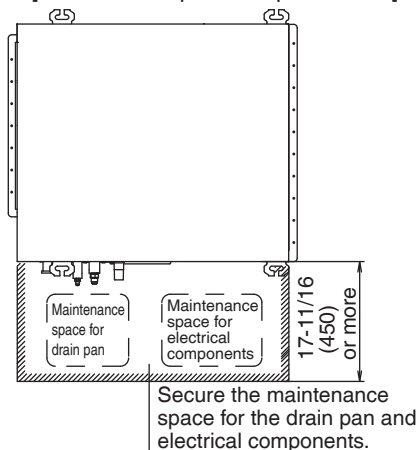
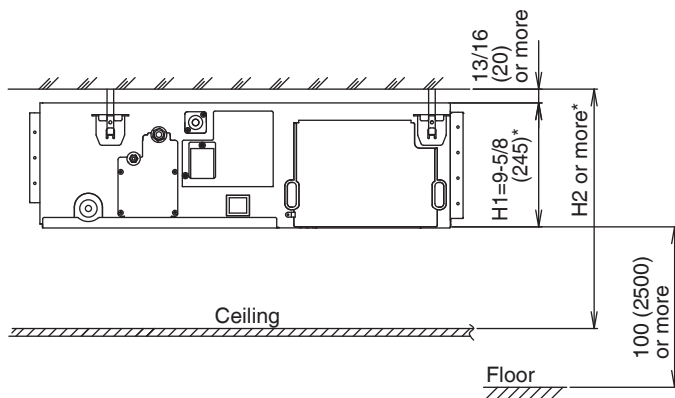

Fig. 1
Fig. 2
(1) Select the installation location that meets the following conditions and get approval of the user.
- Where a space sufficient for installation and service can be ensured. (Refer to Fig. 1 and Fig. 2)